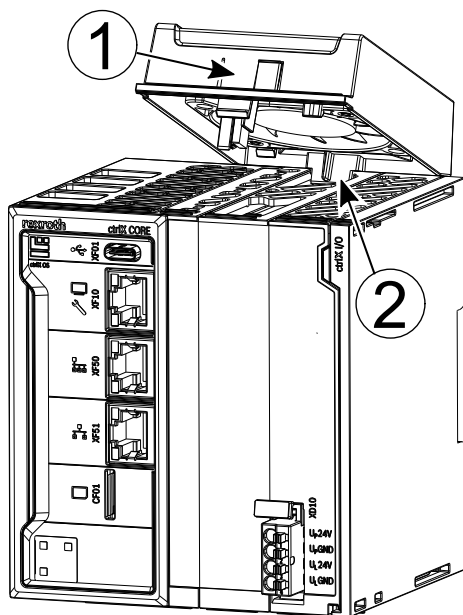

Fig. 12: Mounting fan for AI accelerator module
1. → Release the locking hook of the fan at the front, see ① in Fig. 12.